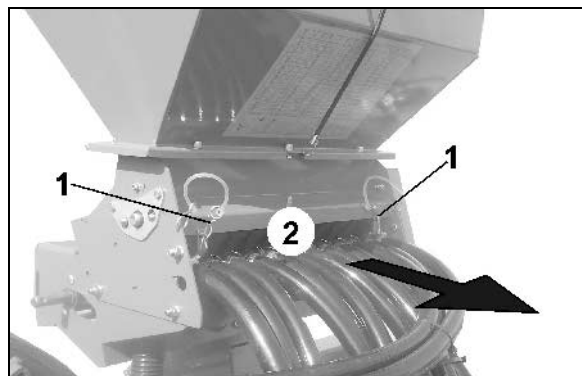

Fig. 34
- o the metering unit is in metering position and secured with lynch pin (Fig. 34/1).